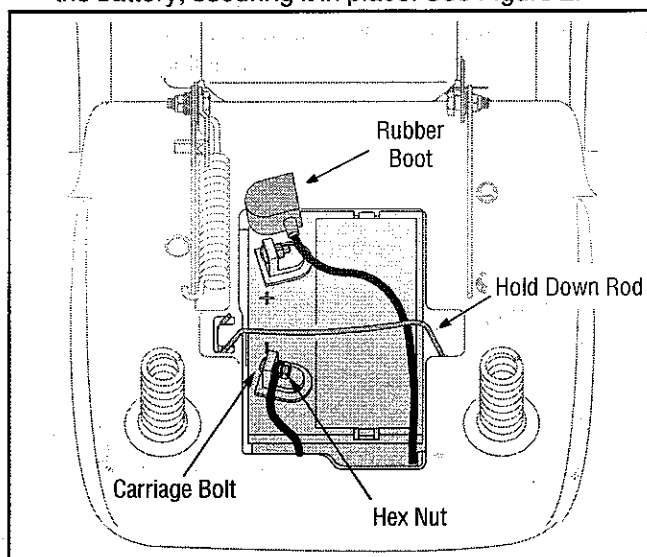

Figure 2
(1) 7/16" wrench
- Make certain the hold-down rod is in position over the battery, securing it in place. See Figure 2.